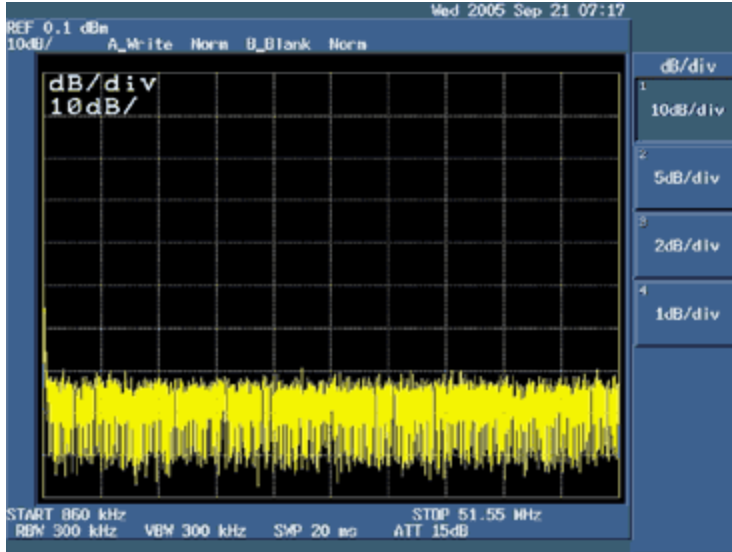

Figure 4. Selecting 10dB/div as the desired decibels-per-division ratio.
3. Press soft key #3 (**dB/div**) to select **dB/div** display type. Select soft key #1 (**10dB/div**) as the desired decibels per division ratio, as shown in **Figure 4** and then press the **RETURN** key.